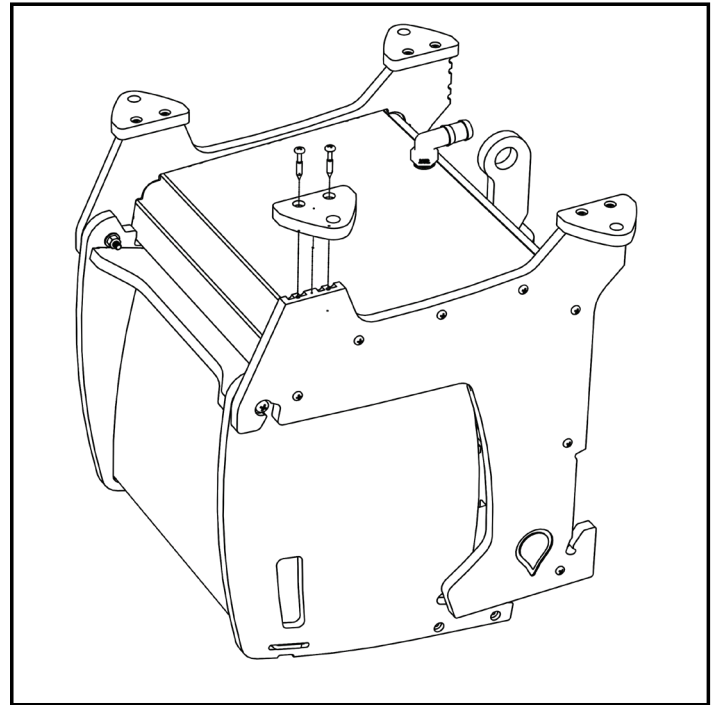

Fig. 3.1: Shelf mounting feet attachment
1. To mount the Pump Box to an existing shelf attach the four included mounting feet to the bottom of the unit as shown in [Figure 3.1]